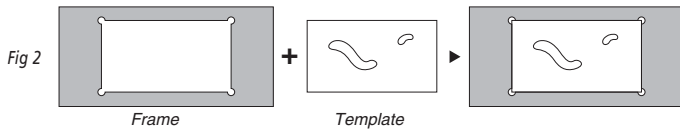

Fig 2
- Insert one of the templates into the holding frame (There maybe up to 4 templates per design). The templates are designed to fit tightly into the frame, and therefore NO separate clamping is required. (See fig 2)